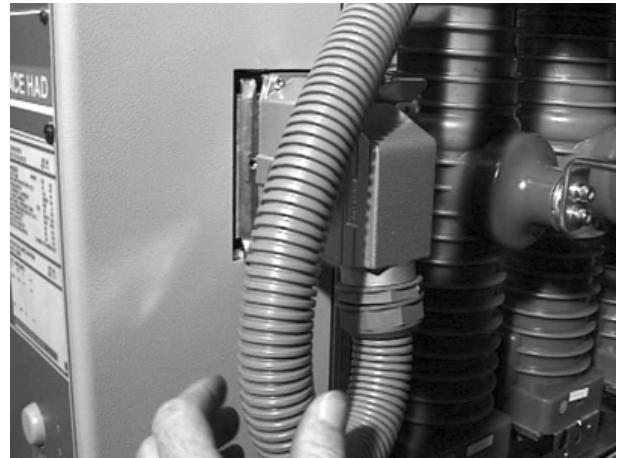

Figure 5.12
- 6) After mounting the circuit-breaker, put the white control pin into the cable terminal (Figure 5.11) and connect the terminal to the circuit-breaker. Notice the correct position of the flexible tube (HD4/S).(Figure 5.12)